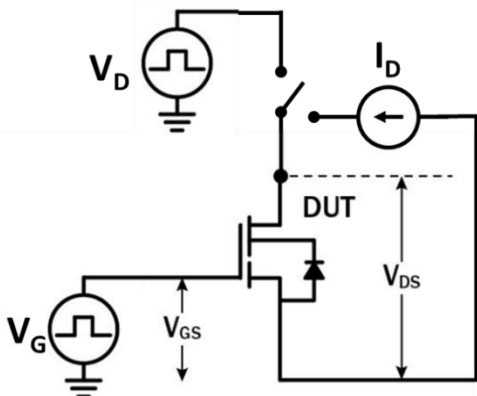

Figure 18. Dynamic $R_{DS(on)eff}$ Test Circuit
g. Dynamic $R_{DS(on)}$ value; see Figures 18 and 19 for conditions